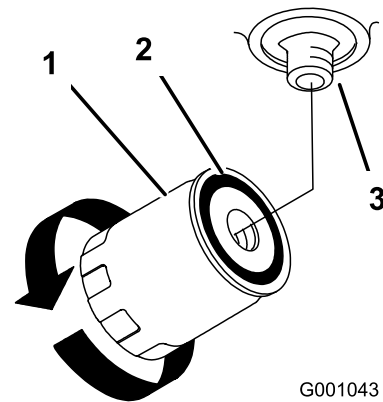

Figure 55
4. Apply a thin coat hydro fluid to the rubber gasket on the replacement filter (Figure 55).
6. Fill the hydraulic tank with hydraulic fluid until the fluid overflows the filter and then turn the oil filter clockwise until the rubber gasket contacts the filter adapter, then tighten the filter an additional 1/2 turn (Figure 55).